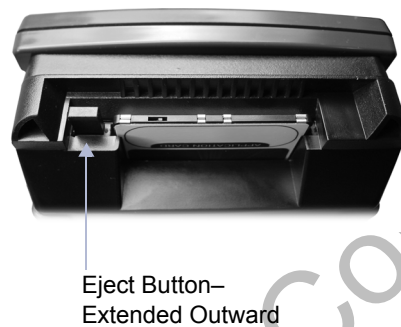

Figure 3.7 Card Inserted into Slot
- 3 Push the card into place until the eject button pops outward (Figure 3.7).